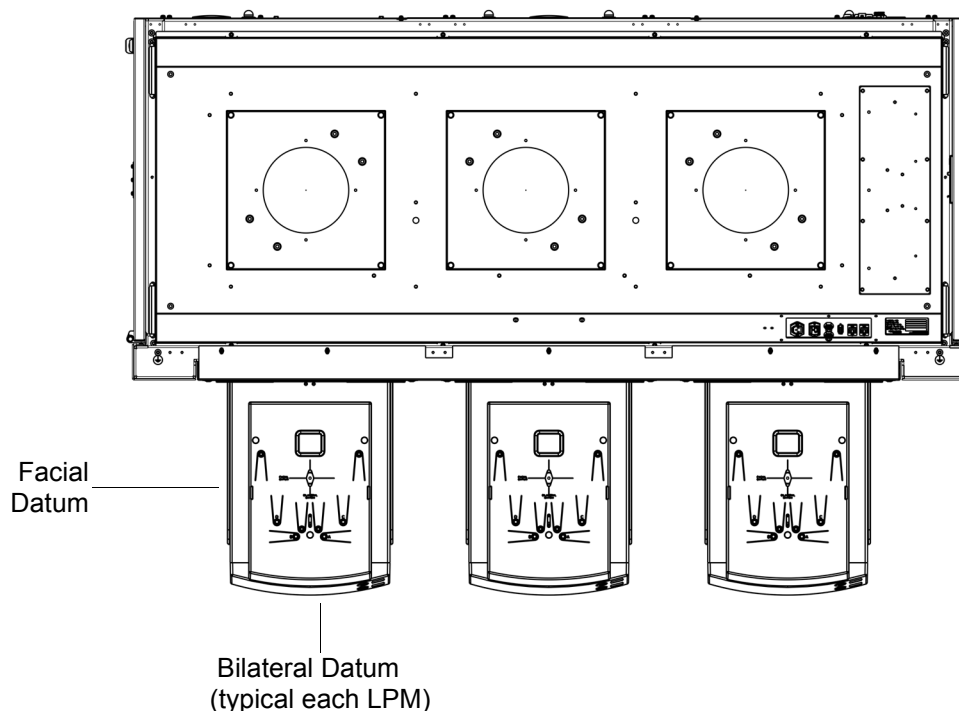

Figure 4-2: Positioning the Jet system (300mm System Shown)
2. Position the Jet system with the Load Port Modules in the proper position for carrier hand-off, starting with the left-most LPM. Refer to the datum marks on the Load Port Module's shuttle cover as shown in Figure 4-2.